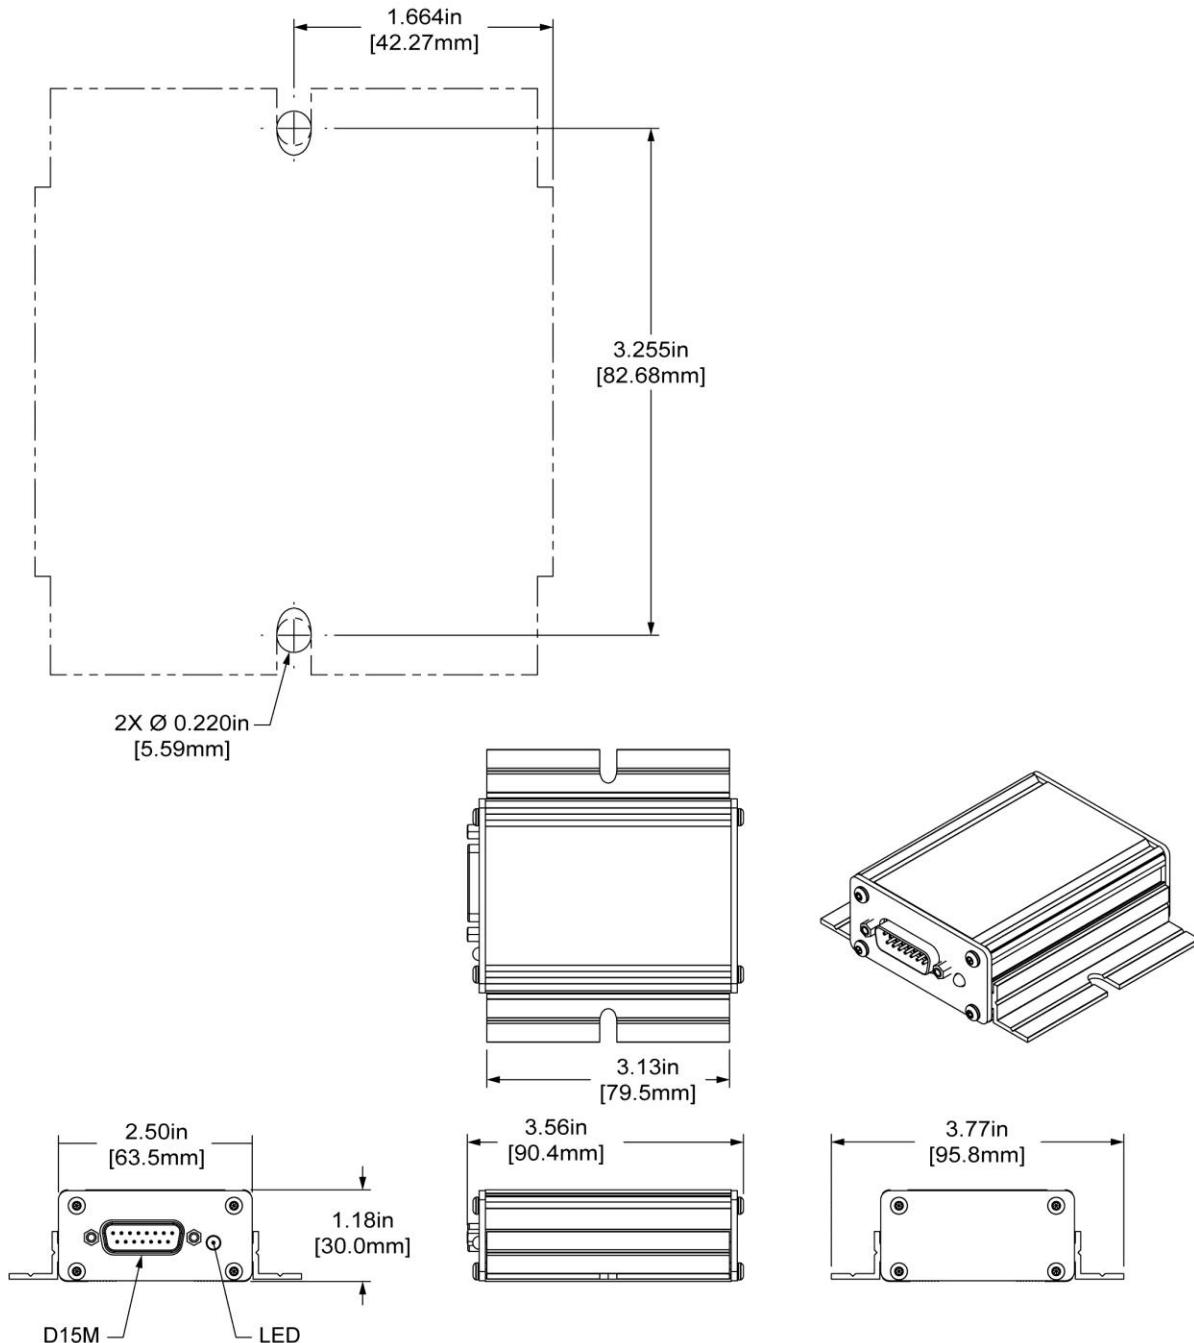

Figure 225 – SV-AP-TRIMAMP Installation Dimensions
- Mounting location should have adequate space for module, electrical connections, and servicing (see Figure 225 for mounting dimensions).
2. Use Figure 225 and mounting holes on unit as template to mark hole locations on airplane structure.